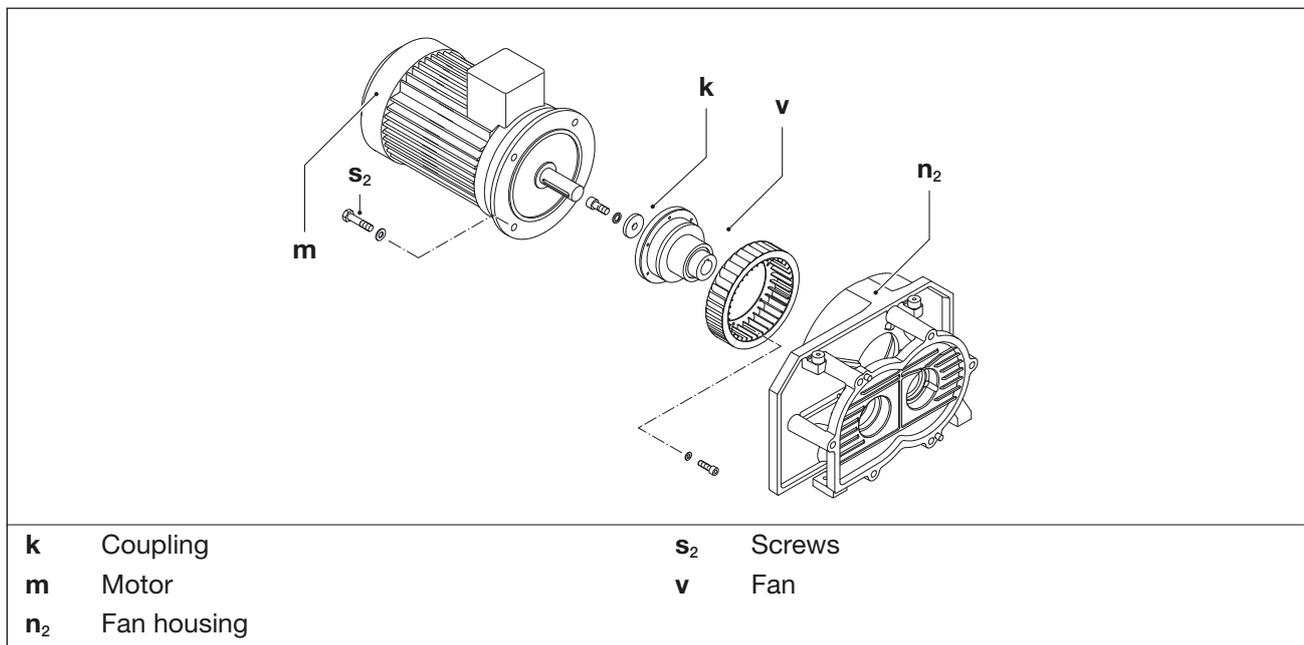

Fig. 9 Check the fan
The fan (Fig. 9/v) for cooling the compressor must be checked for tight fit and damages at least 1 x per year. If necessary, the screw connections must be retightened or the fan is to be replaced.
- Hook the motor (Fig. 9/m) in the eyebolts and lift it by means of lifting gear. If no eyebolts exist, suspend the Motor with round loops.
- Release the screws (Fig. 9/s₂) on the motor flange and axially pull the motor with coupling (Fig. 9/k) and fan (Fig. 9/v) out of the fan housing (Fig. 9/n₂).
- Check the fan (Fig. 9/v) and clean it, if necessary. If the fan is damaged, replace it.
- Axially push on the motor with the coupling (Fig. 9/k) and fan (Fig. 9/v) and using the screws (Fig. 9/s₂), fix it to the flange (Fig. 9/n₂) of the housing.